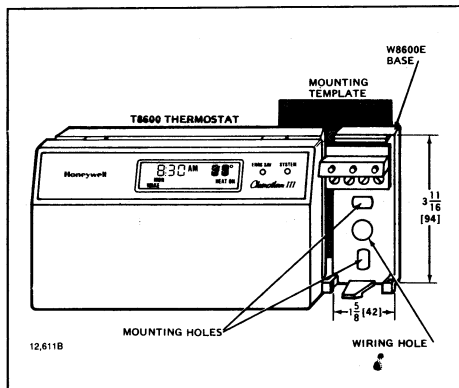

Fig. 1—Mounting the W8600E Indicator next to the T8600 Thermostat, dimensions in in. [mm].
- Hold the mounting template (included in the W8600E bag assembly) next to the T8600 as shown in Fig. 1.